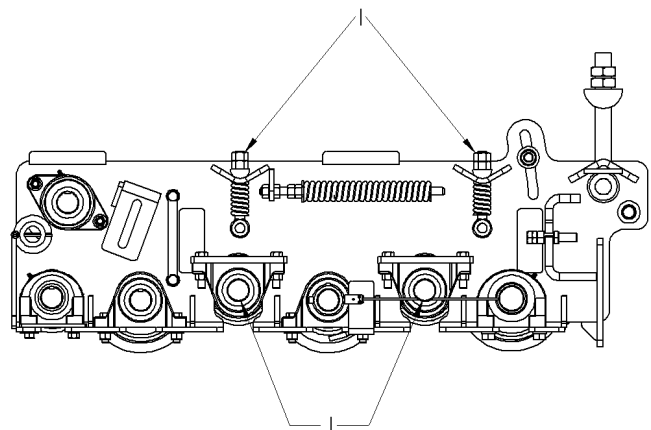

Figure 7-23: Grabroll height Adjustment
- 3. To adjust smooth grabrolls (J), shown in figure 7-23, up or down, use eye bolts (I). Amity recommends adjusting in $\frac{1}{4}$ " increments.